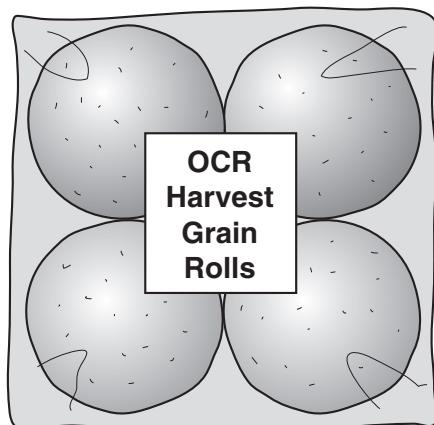

Fig. 4
Fig. 4 shows a bread product.
- (a) Give **four** justified design requirements for the bread product shown in Fig. 4.
- (e) (i) State a suitable flour for making the bread product shown in Fig. 4 and give **two** properties of the flour that make it suitable for this use.
- (ii) Describe, in detail, how the bread product shown in Fig. 4 would be manufactured.